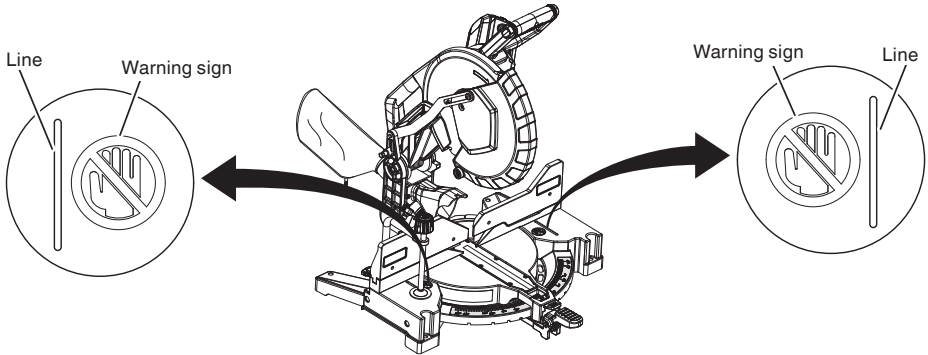

Fig. 16
- * Never place your limbs inside of the line next to warning sign while the tool is being operated. This may cause hazardous conditions (see Fig. 16).